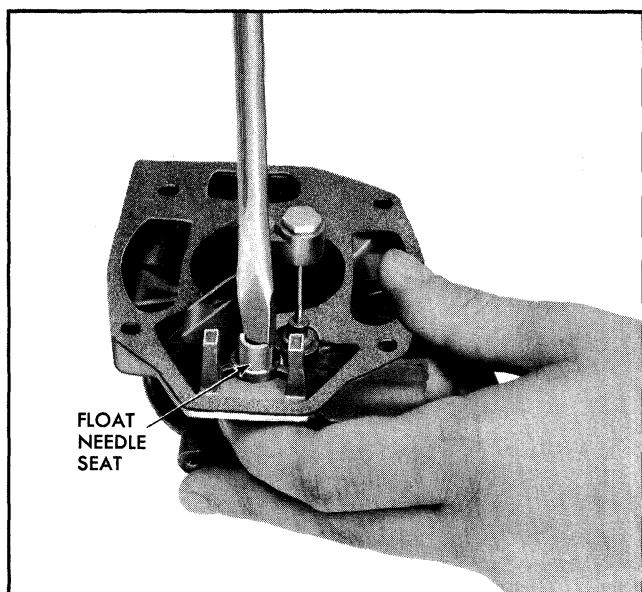

Fig. 6B-19 Removing Float Needle Seat
2. Remove four air horn attaching screws. Lift air horn straight up from bowl so as not to damage float (Fig. 6B-17). Place air horn, inverted, on a flat surface.